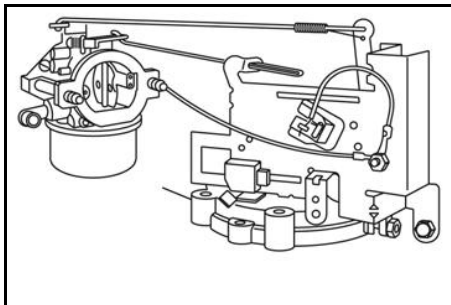

Figure 6
- Figure 6 - Models 280000, 310000, 330000 (Choke-A-Matic® Carburetors).